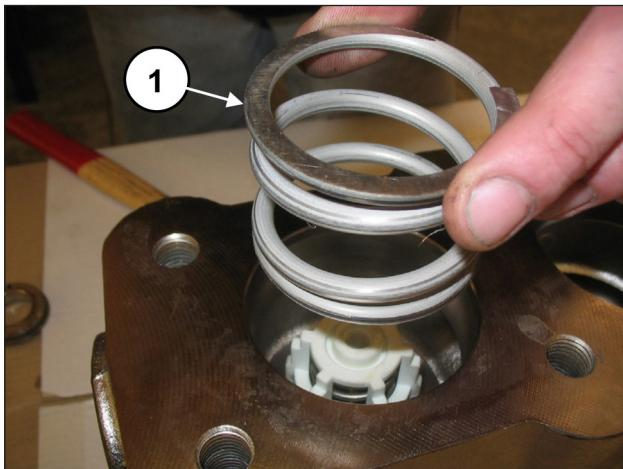

Fig. 124
Insert the valve housing ring (pos. ①, Fig. 123) and the spring (pos. ②, Fig. 124).